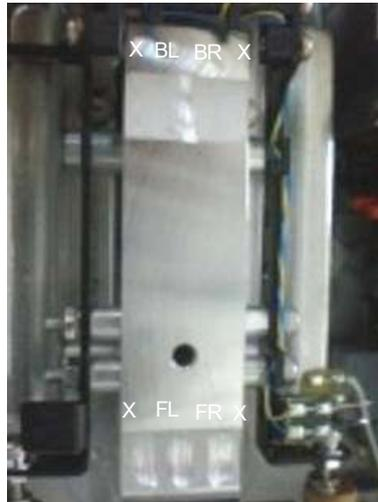

Fig. 4-8
*** To prevent deformation of the edge surface, do not shave off 3 mm on both sides of the cell width (X X area in the Fig. 4-8).**